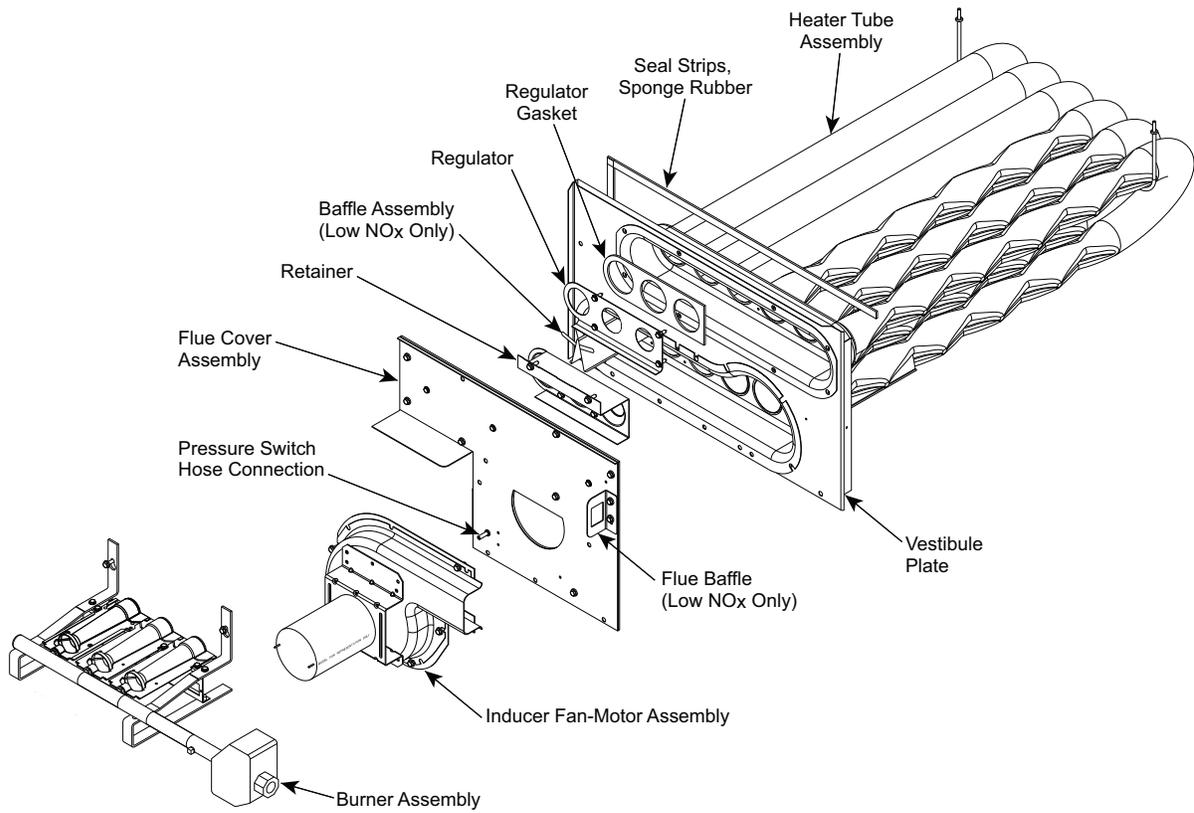

Fig. 35 — Heat Exchanger Assembly
1. Remove the combustion blower wheel and motor assembly according to directions in Combustion-Air Blower section. See Fig. 35.
2. Remove the 7 screws attaching the induced-draft motor housing to the vestibule plate. (See Fig. 35.)
9. Remove the 2 screws attaching the burner rack to the vestibule plate (see Fig. 35).
9. Remove the 2 screws attaching the burner rack to the vestibule plate (refer to Fig. 35).
10. Remove the pressure switch hose from the connection on the flue cover assembly (see Fig. 35).
14. Separate the following from the heat exchanger: inducer fan-motor assembly, flue cover assembly, retainer, regulator, regulator gasket, and if a Low NOx unit, also remove the baffle assembly. See Fig. 35.